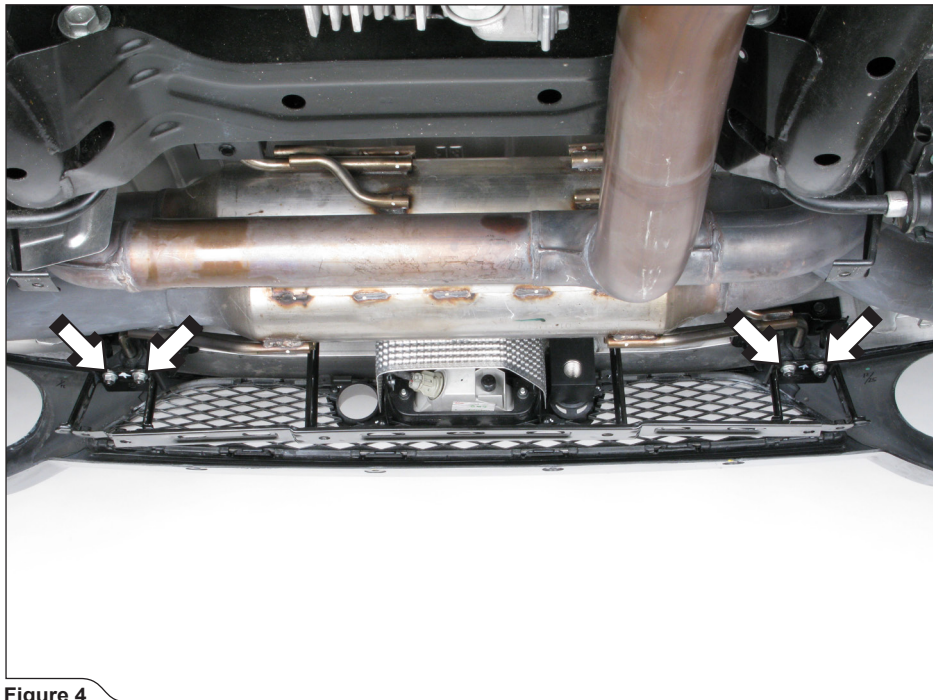

Figure 4
3. **For Slip-On and Evolution:** unscrew the marked nuts on both sides of the vehicle and remove the bumper brackets (**Figure 4**).